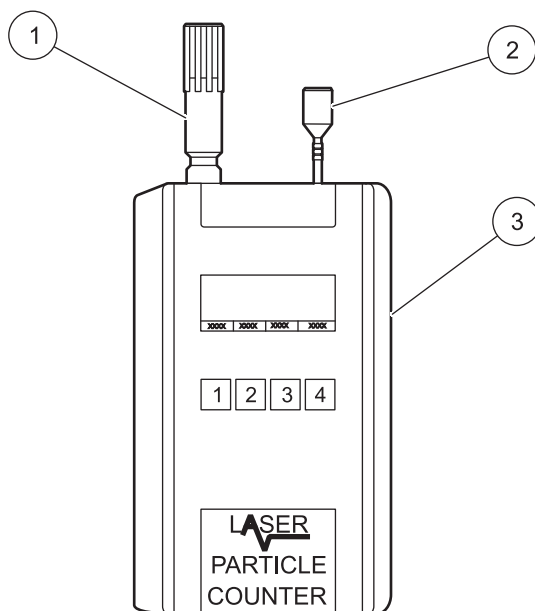

Figure 4 Installation of the isokinetic and relative humidity/temperature probe
The isokinetic probe (refer to Figure 4 on page 12, item 2) is used in the laminar air flow for a flow rate of up to 100 feet per minute.
1. Locate the connector for the RH/T probe (refer to Figure 4 on page 12, item 1) on top of the MET ONE 227 particle counter.